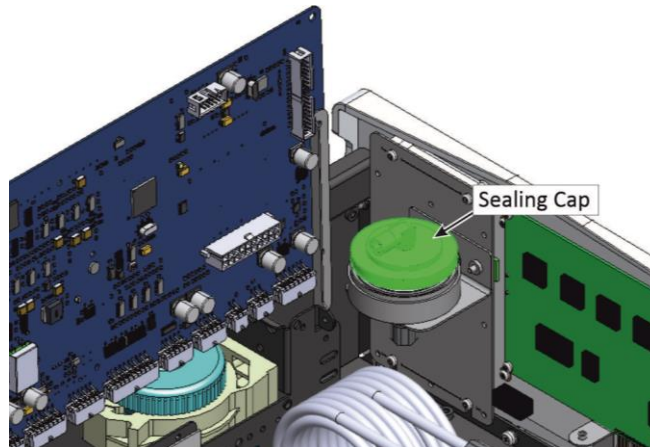

Figure 128 – Remove Filter Sealing Cap
5. Refer to Figure 128. Remove the sample filter holder sealing cap.